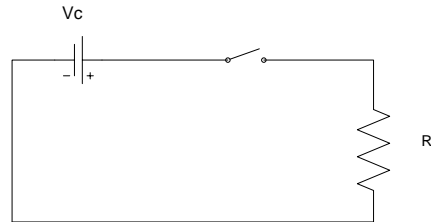

Fig.1: Experimental setup.
- a. Connect the circuit shown in Fig. 1 below (Note: Your instructor will check your circuit).